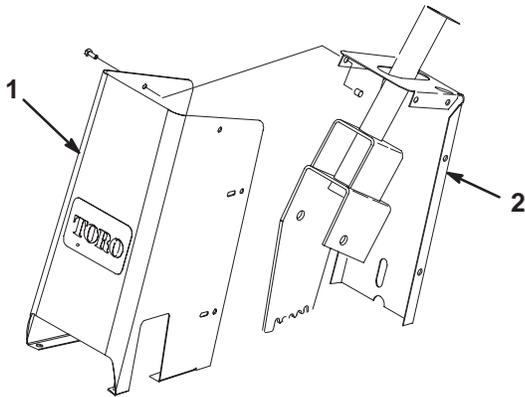

Figure 1
1. Remove the steering tower housing (Fig. 1).
- Install the steering tower housing (Fig. 1).